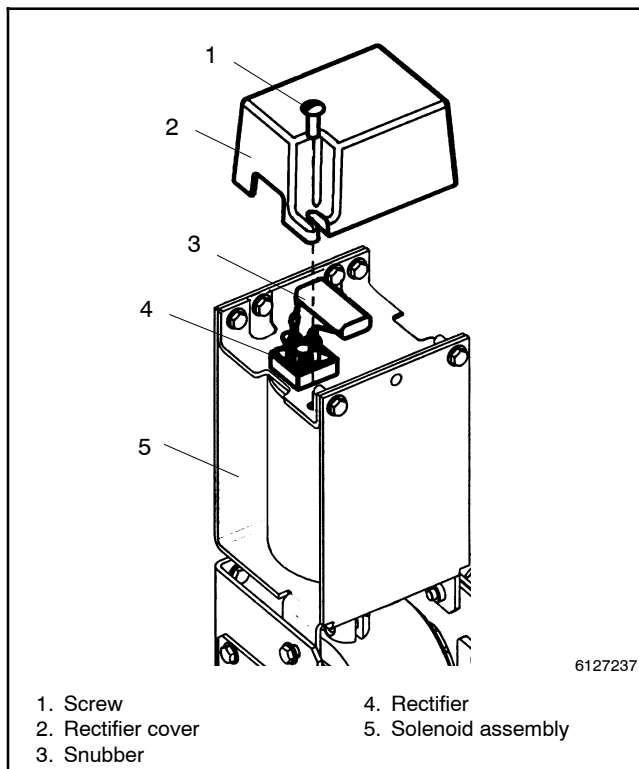

Figure 8-19 Rectifier Cover
1. Remove the rectifier cover and disconnect the coil leads. Use a blade screwdriver to loosen one screw (do not remove it) and remove the rectifier cover. Disconnect the two coil leads from the rectifier. See Figure 8-19.
4. Connect the new coil and reinstall the rectifier cover. Install the quick-connect coil leads onto the rectifier terminals (DC). Then install the rectifier cover onto the top of the solenoid frame. Use a blade screwdriver to tighten the screw. See Figure 8-19.
4. Remove the rectifier cover and disconnect the two wires. Use a blade screwdriver to remove one screw, then remove the rectifier cover. Then disconnect the two wires coming into the solenoid assembly from the harness. See Figure 8-19.
8. Install the new rectifier cover and connect the two wires. Connect the two wires from the harness (previously disconnected) to the rectifier terminals (AC). Then install the new rectifier cover onto the solenoid assembly. See Figure 8-19.